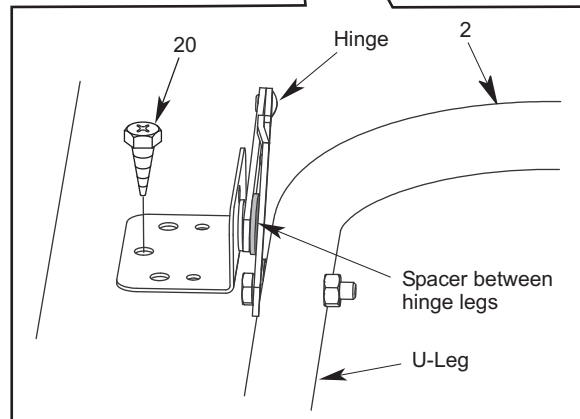

Figure 6
- B. Place a spacer that is about 1/16" thick between hinge legs. Suggestion: either a nickel or a quarter is an ideal spacer. See Figure 6.
- C. With hinge bracket, hinge and leg flat against table topf and spacer between hinge legs, screw bracket to table with five #20 screws. See Figure 6.